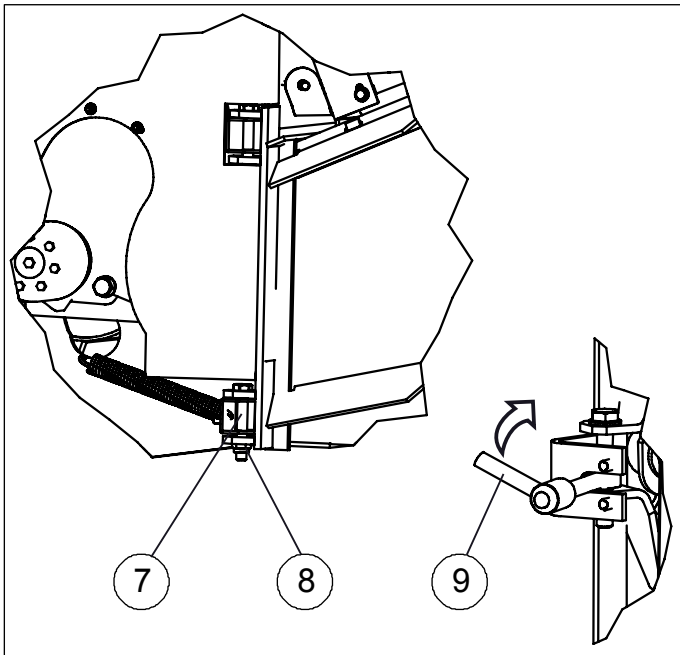

Fig 4a. Installation of the feed chute
2. Attach the feed chute to the body of the feeder using two M12x80 screws (7) and clasp nuts (8). Lock the feed funnel into the working position (9), see Fig 4a.